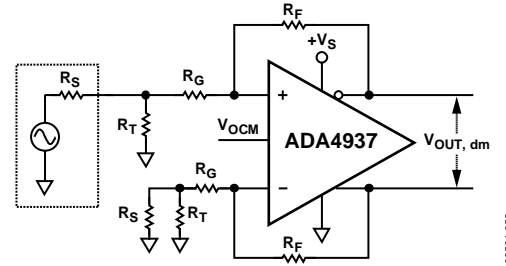

Figure 55. ADA4937-x Configured for Unbalanced (Single-Ended) Input
For an unbalanced, single-ended input signal (see Figure 55), the input impedance is
**Table 11. Single-Ended Ground-Referenced Input, DC-Coupled, RS = 50  $\Omega$ , RL = 1 k $\Omega$ ; See Figure 55**